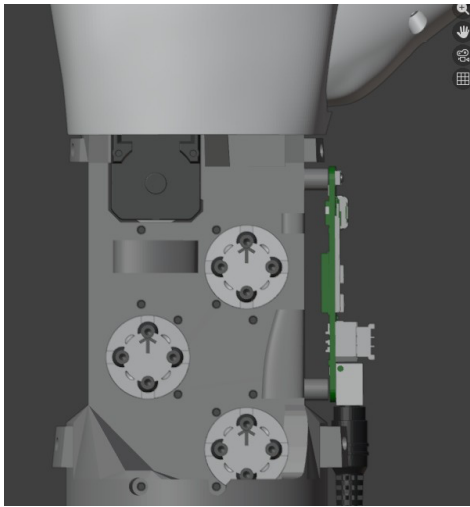

Figure 5.74: Skeleton - Rear lower cover area
3. Position the pins on one side of the rear cover onto the interlocking holes on the corresponding side of the skeleton, snap them in, then rotating the cover proceed to snap the pins on the other side. See figures 5.74 and 5.75 .